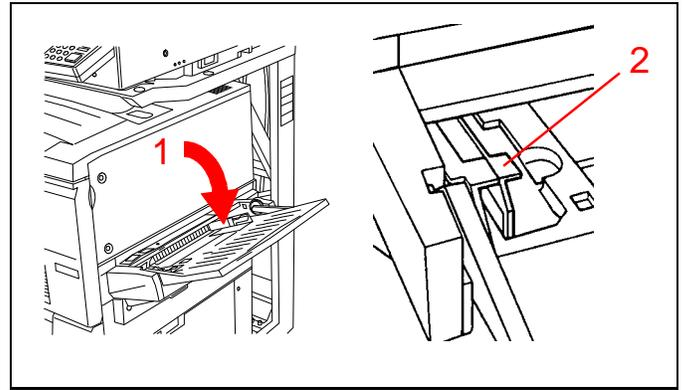

Figure 10
1. See Figure 10. Open the bypass tray by swinging the door down.